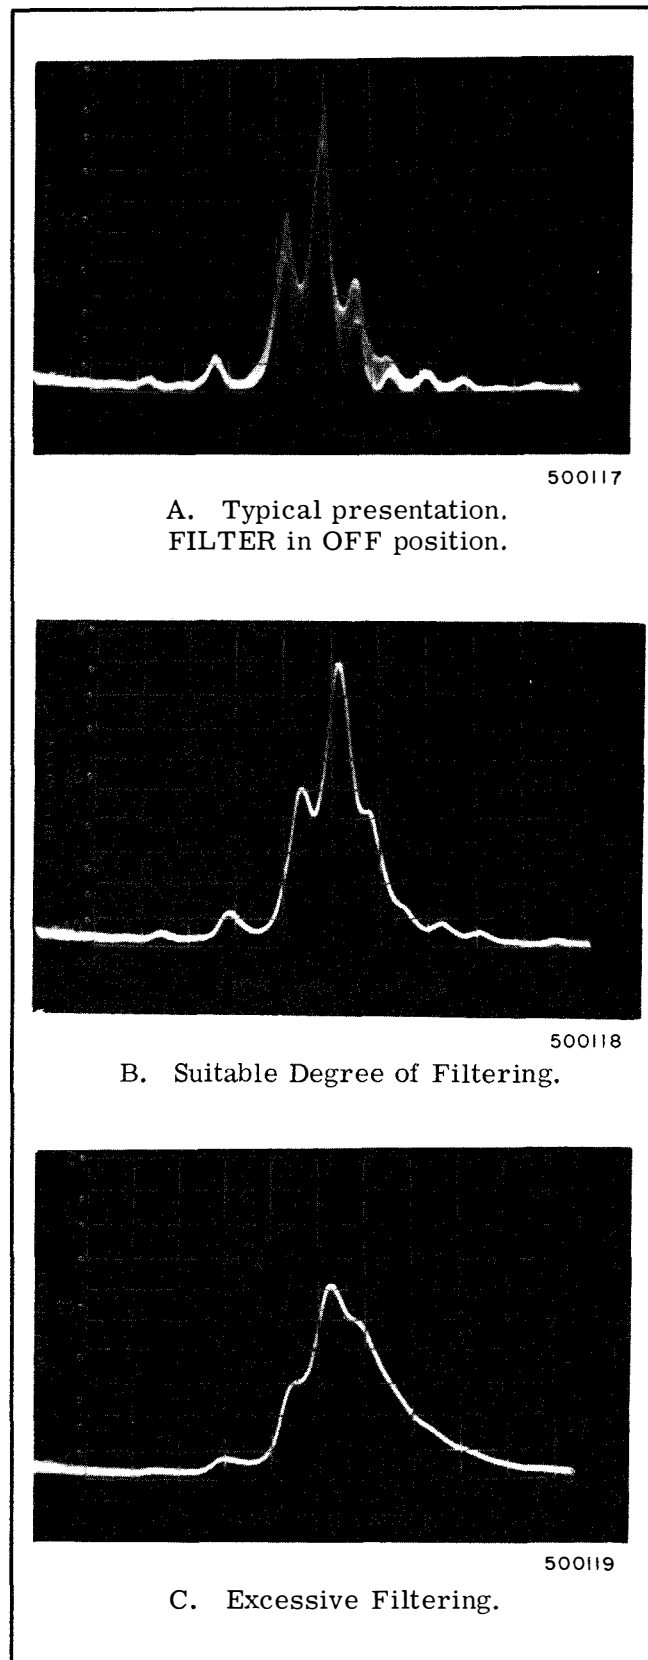

Figure 3-7. Typical Screen Presentations, Illustrating Adjustment of VIDEO FILTER Control
o. If noise, beats between adjacent signals, and so on, make observations difficult, the VIDEO FILTER control can be used to suppress such unwanted effects. However, if measurements permit, it is better to keep the control in the OFF position and adjust the equipment for better resolution (refer to paragraph 3-11) to eliminate beats between adjacent signals. Clockwise rotation of the VIDEO FILTER control increases the amount of filtering. Excessive filtering will decrease the amplitude of pips on the screen and worsen resolution. The control, if used, should be adjusted for the clearest picture with minimum loss of amplitude. It should be noted that the control has greatest useful effect at low sweep rates. At high sweep rates, the effect on the signal pips is too great for the control to be helpful. Figure 3-7 shows typical screen presentations obtained when the VIDEO FILTER control is used. In a, a typical case of beating between signals is illustrated; the control is in the OFF position. In b, the control has been adjusted for a clear picture with minimum loss of amplitude. In c, excessive filtering is illustrated; note the loss of amplitude and broadening of the pips.
d. Turn the IF BANDWIDTH control counterclockwise until individual signals are most clearly resolved. If the signals are not resolved, a slower sweep rate will have to be used. Optimum resolution can be recognized by the nature of the ringing pulses that will appear on the trailing edge of the signal pip as optimum resolution is approached. See Figure 3-7 and step e. Ringing can be seen more easily with the VIDEO FILTER control in the OFF position.